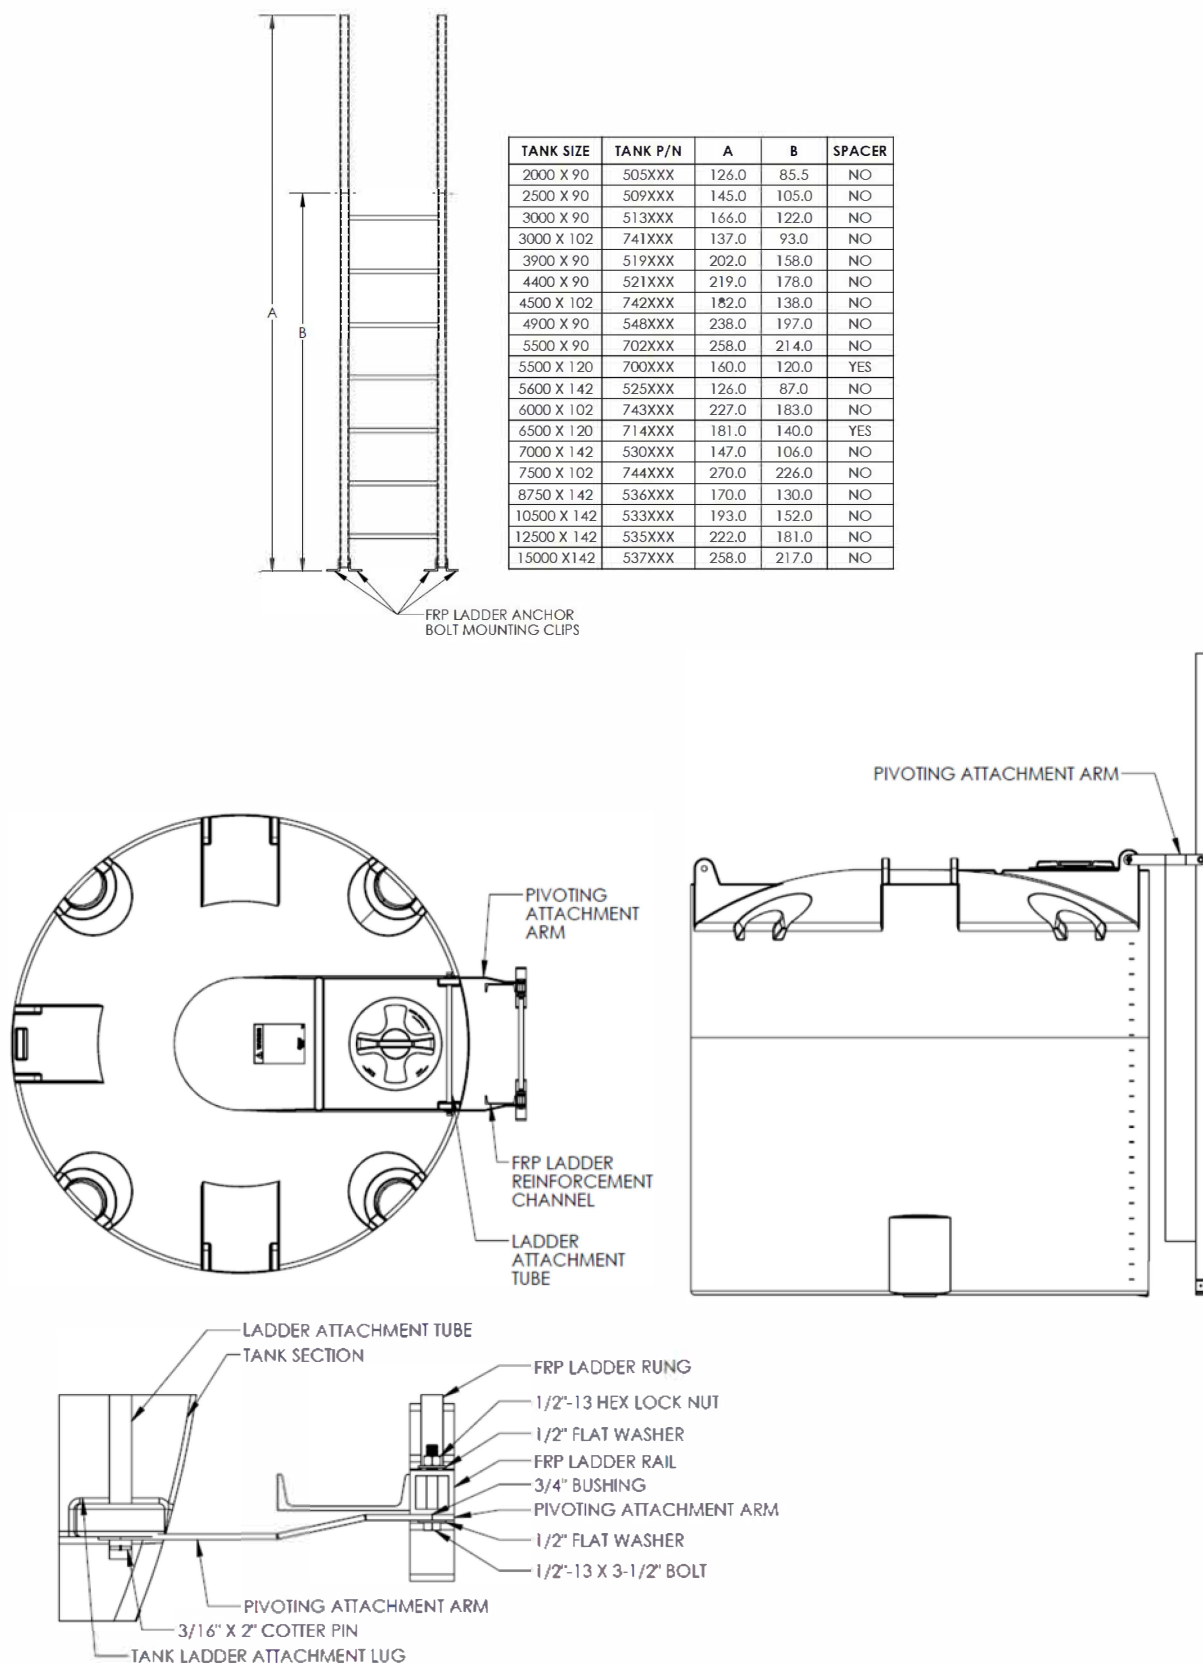

Figure 8.7
8.7.1 FRP ladders are designed in accordance with OSHA 1910.27 and are to be mounted next to the tank on a concrete pad at the same elevation as the bottom of the tank. The concrete pad area that the ladder mounts to must be of sufficient size as to comply with OSHA standards regarding proper access to and from the ladder. This should be determined by the construction site engineer based on the specific application. The pad must be of sufficient size to allow proper attachment of 5/8" anchor bolts (check with anchor bolt manufacture for embedment and edge distance required). The ladder mounting system is designed to allow for tank expansion and contraction due to temperature and loading changes. Using the assembly drawing and table shown in Figure 8.7, verify that all parts are present and assemble accordingly.
8.7.2 Attach the stainless steel top pivoting attachment arms to the ladder using the 1/2" bolt and 3/4" bushing assemblies (2 required) as shown in Figure 8.7. Position the ladder on the tank and attach the top pivoting attachment arms to the tank with the ladder attachment tube and cotter keys provided (see assembly drawing). Position the ladder parallel with the side of the tank and mark 4 ea. 5/8" anchor bolt locations. Install appropriate 5/8" anchor bolts and attach the bottom of the ladder to the concrete pad. Anchor bolts are not provided by the manufacturer and must be purchased by the customer.